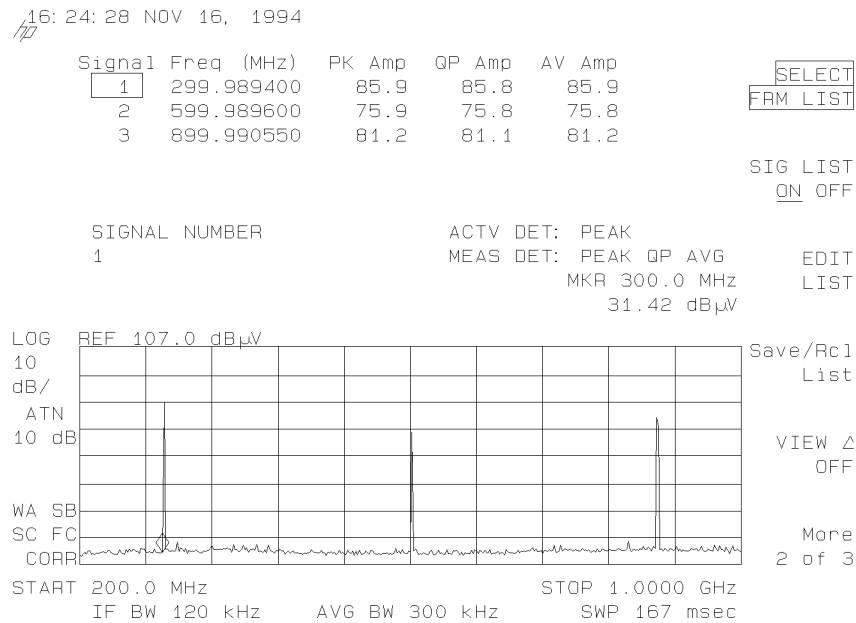

**Figure 1-4. Displaying a List on the Screen**
9. To display the list on the screen, press **More 1 of 3**, then the **SIG LIST ON OFF** softkey. The measure-at-marker results in the form of a list are displayed on the upper portion of the screen. Refer to Figure 1-4.